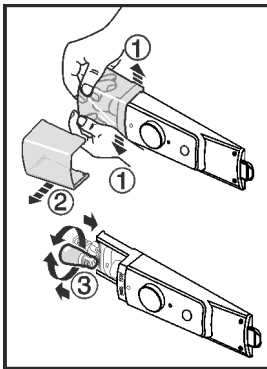

Fig. 10
- ▶ Push the lamp cover in and apart at the front Fig. 10 (1), and remove to the side Fig. 10 (2) as shown in the illustration.
- ▶ Replace the lamp. Fig. 10 (3)